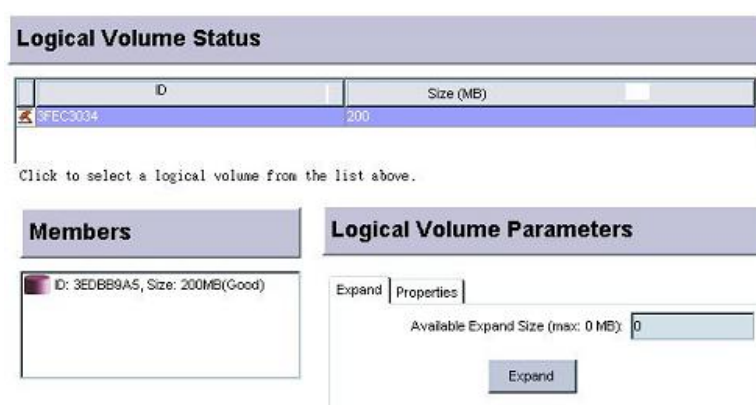

Figure 9-20: Existing Logical Volumes Window
Step 1. Select a configured LV from the **Existing Logical Volumes** window shown in **Figure 9-20**. As shown below, all the LVs that have been created will appear below the **Logical Volume Status** panel.